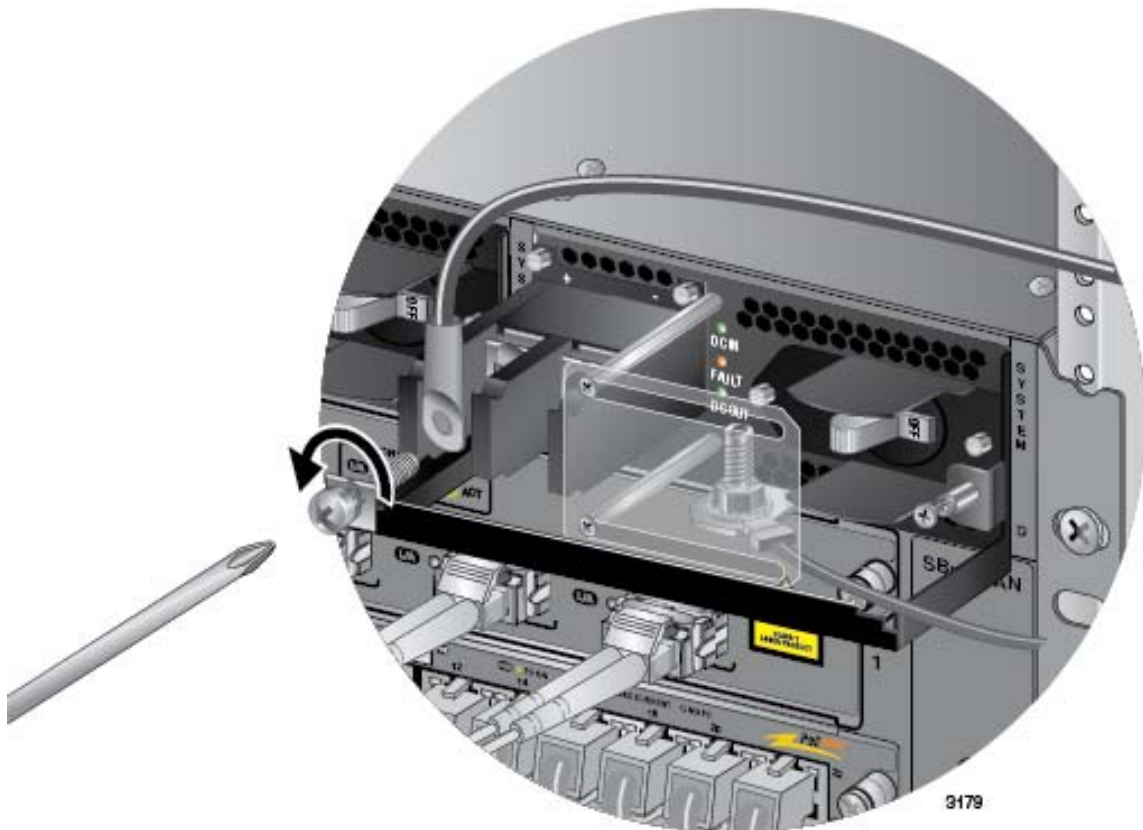

Figure 162. Removing the Positive Lead Wire
6. Use a #3 screwdriver to remove the positive (+) lead wire from the terminal block. Refer to Figure 162 on page 264.